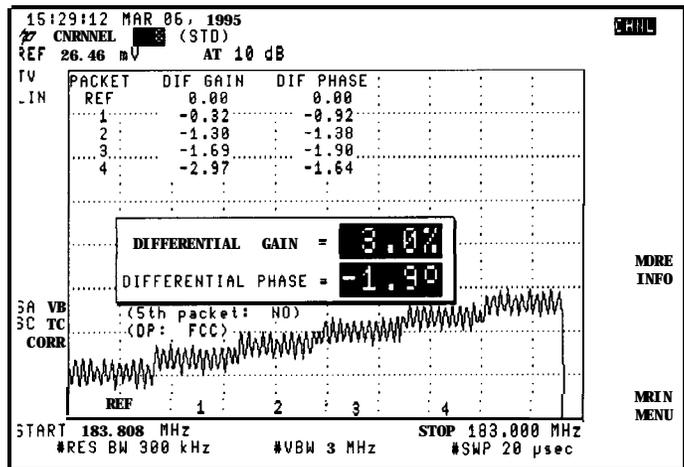

Figure 2-26. Differential Gain/Differential Phase, More Information
10. Press MORE INFO to display the averaged results of the individual packets. This will be useful for relative measurements. See Figure 2-26.